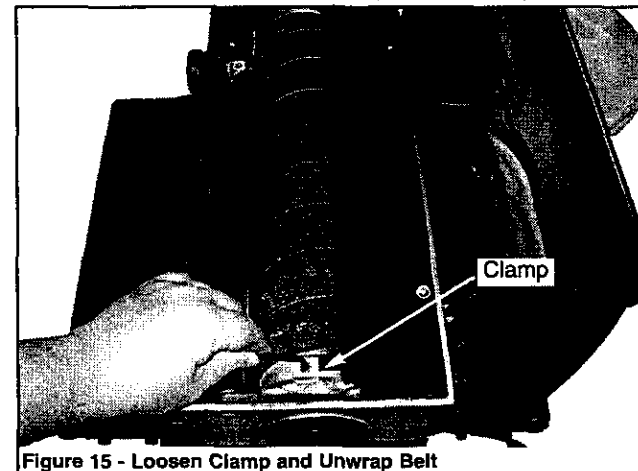

Figure 15 - Loosen Clamp and Unwrap Belt
- Rotate the drum by hand to remove the belt. Release belt from clamp at other end of drum (See Figure 15).